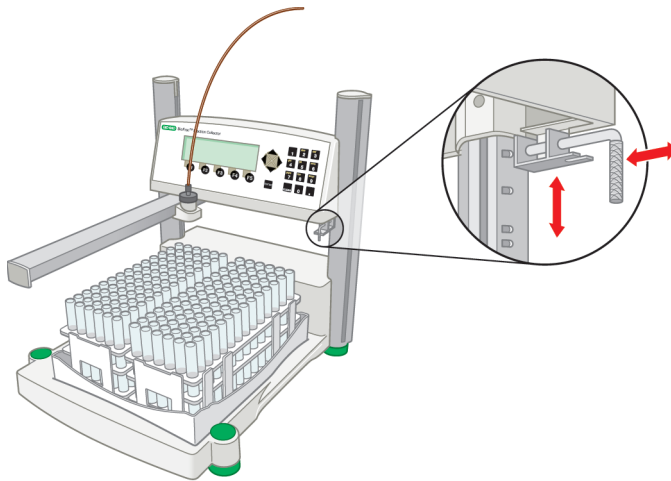

Fig. 11. Lock pin adjustment.
Place the rack positioning tray into the base of the fraction collector, deep side facing up. Position each rack so that its legs are in the rack guides. Adjust the fraction collector's control module appropriately for the height of the tubes being used. The height adjustment lock pins (see Figure 11 on page 32) can be used to lock the drophead at the desired height. Tube number 1 is located in the front, left corner of the each rack.
Place the rack positioning tray into the base of the fraction collector, deep side facing down. Position each rack so that its legs are in the rack guides. Adjust the fraction collector control module head appropriately for the height of the tubes being used. The height adjustment lock pins (see Figure 11 on page 32) can be used to lock the drophead at the desired height. Tube number 1 is located in the front, left corner of the each rack. For racks H1 and H2, use only capless microtubes.
Remove the lid of the ice bath/microplate rack and fill the tub approximately $\frac{1}{2}$ full with crushed ice, replace the lid and insert 13 x 100 mm culture tubes. Remove the rack positioning tray from the fraction collector and replace it with the ice bath rack. Adjust the fraction collector control module appropriately for the height of the tubes being used. The height adjustment lock pins (see Figure 11 on page 32) can be used to lock the drophead at the desired height. Tube number 1 is located in the front, left corner of the rack.
Remove the rack positioning tray from the fraction collector and replace it with the ice bath/microplate rack. Position the ice bath/microplate rack such that rack tube number 1 is in the left, front corner. Mount the plates on the rack using the plate positioning tabs located on the top of the rack. Adjust the fraction collector control module appropriately for the height of the plates being used. The height adjustment lock pins (see Figure 11 on page 32) can be used to lock the drophead at the desired height. Position the plates such that tube A1 is in the left, front corner. In order to obtain a uniform fraction size when collecting fractions smaller than 0.5 ml, we strongly suggest that fraction size be specified in drops rather than time or volume. Alternatively, the microplate Drop Head Kit (catalog # 741-0088) can be used to obtain finer resolution of fraction sizes since it delivers an approximately 25 μ l drop.
1. Disengage the lock by pulling both lock pins outward from the fraction collector. The lock pins can be disabled by turning the handles sideways (Figure 11).